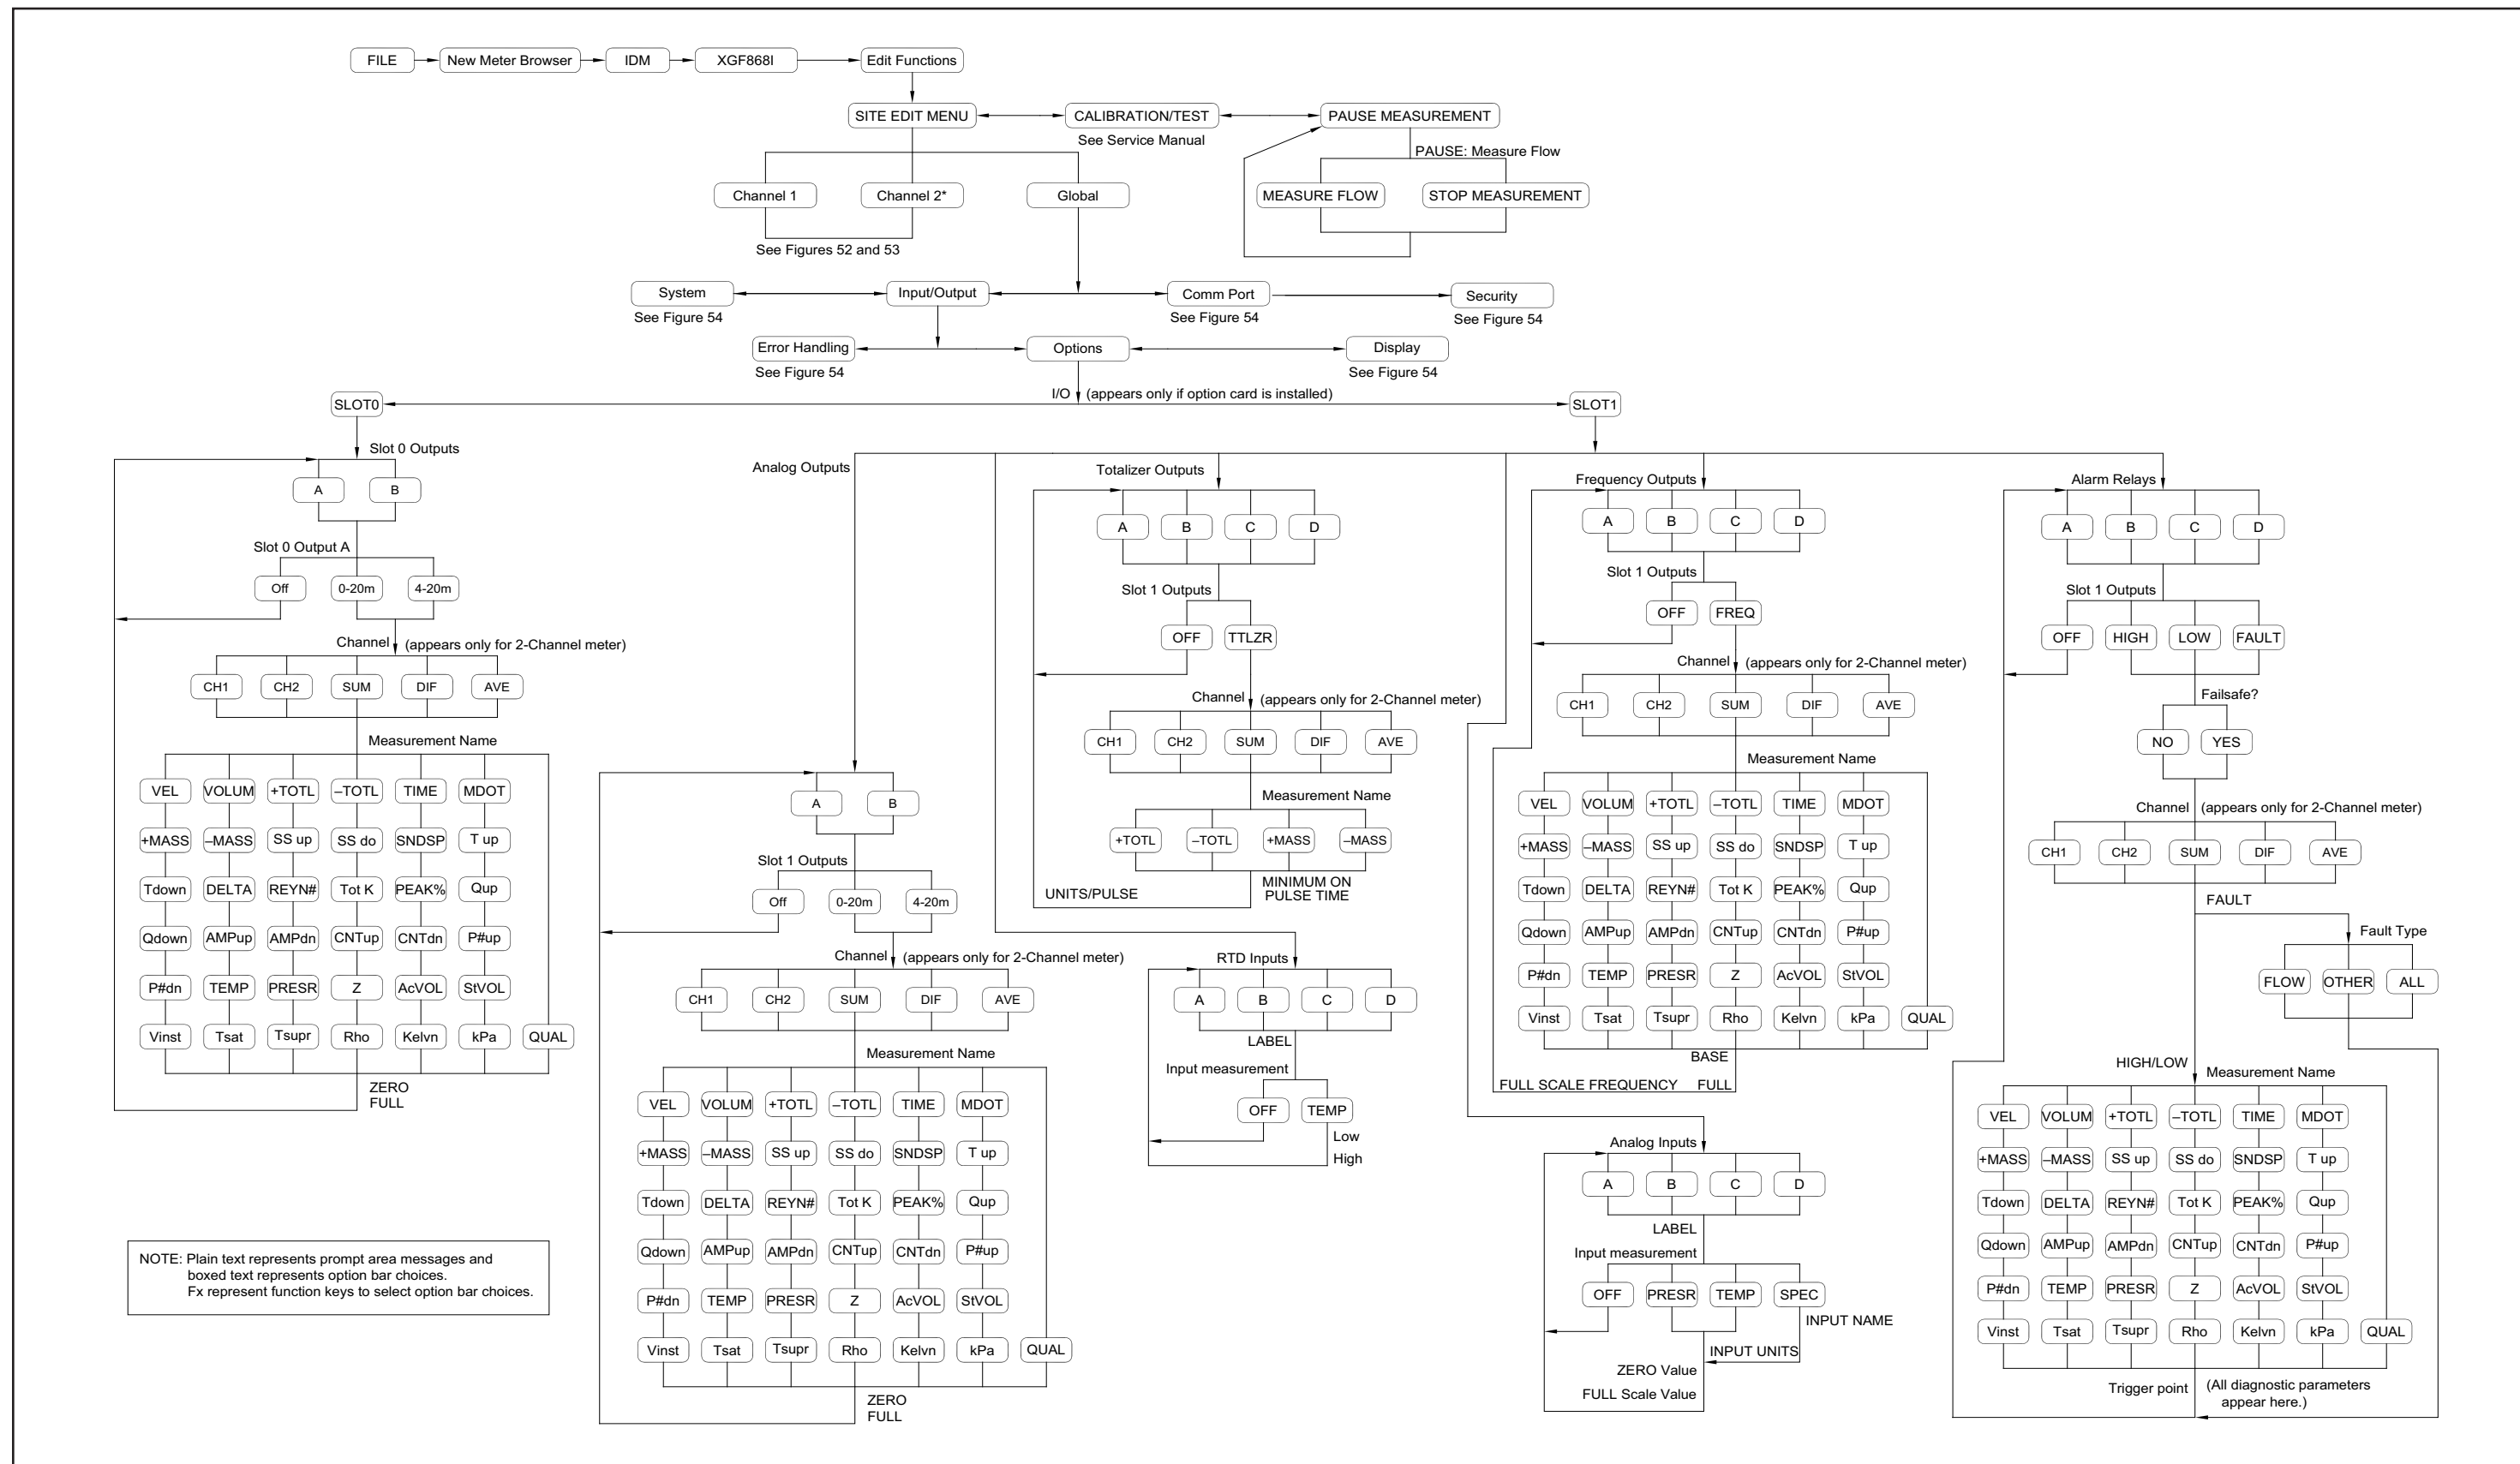

Figure 58: PanaView PROG > GLOBL > I/O > OPTIONS Menu
- Figure 58, “PanaView PROG > GLOBL > I/O > OPTIONS Menu,” on page 134